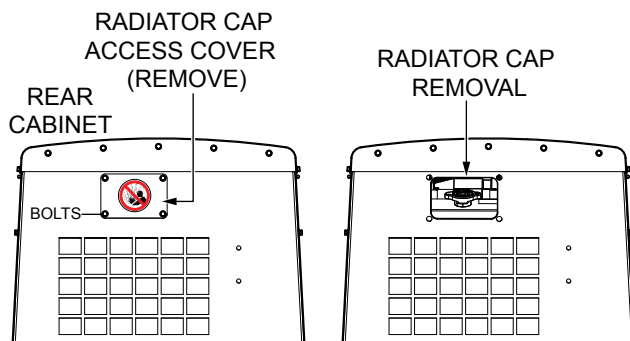

Figure 31. Radiator Cap Removal
1. Remove the four bolts that secure the radiator cap access cover (Figure 31) to the rear cabinet. Remove access cover and gasket.